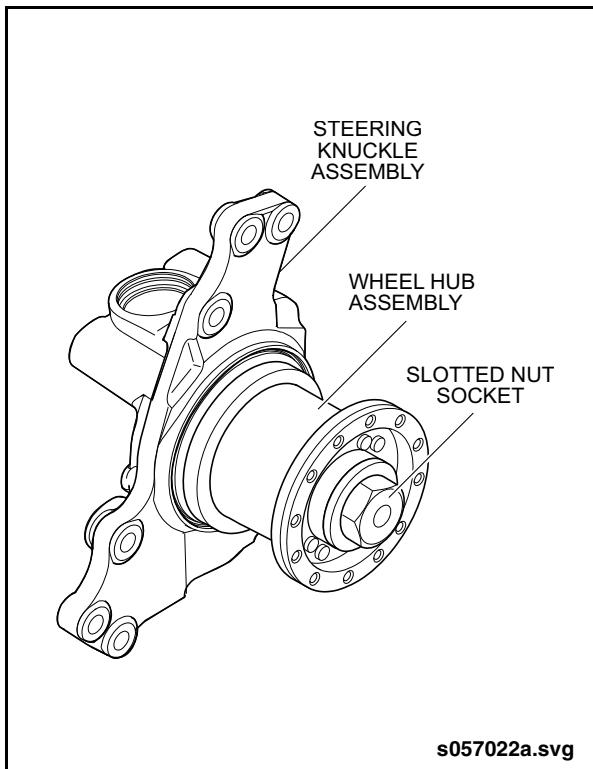

Fig. 1-13: Wheel Hub Slotted Nut Socket
4. Install slotted nut socket (Item 30 from special tools list) onto slotted nut. See "Fig. 1-13: Wheel Hub Slotted Nut Socket" on page 14.